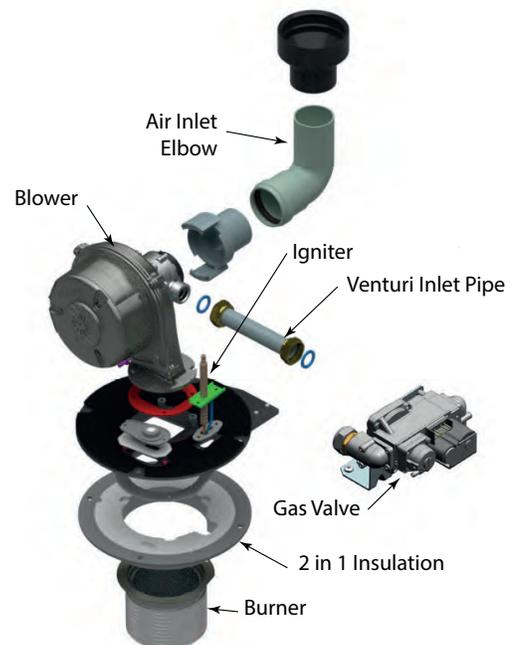

Fig. 1: Instinct 110 Burner Assembly
1. Align the burner/combustion chamber insulation with the gas valve facing the front of the boiler. See Fig. 1, Fig. 2, Fig. 3.